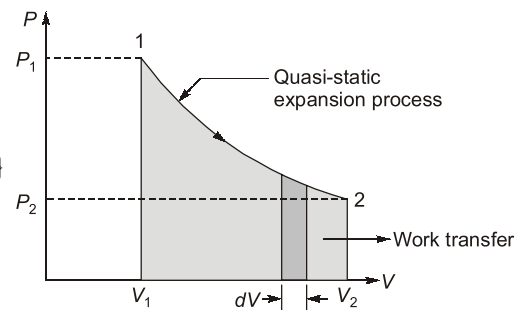

Figure 2.4
- Plotting the above process on a P - V diagram, assuming the process to be quasi-static Fig. 2.4.